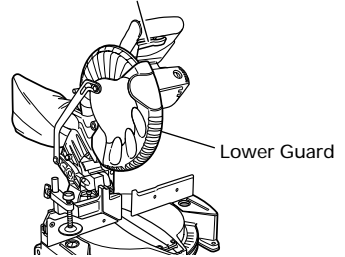

Fig. 4
- To lower the saw head to cut, the lock must be released by pressing the lock lever (C) with your thumb.
- (1) When you push down the handle while pushing the lock lever (C), check that the lower guard revolves smoothly (Fig.4).
- (2) Next, check that the lower guard returns to the original position when the handle is raised.